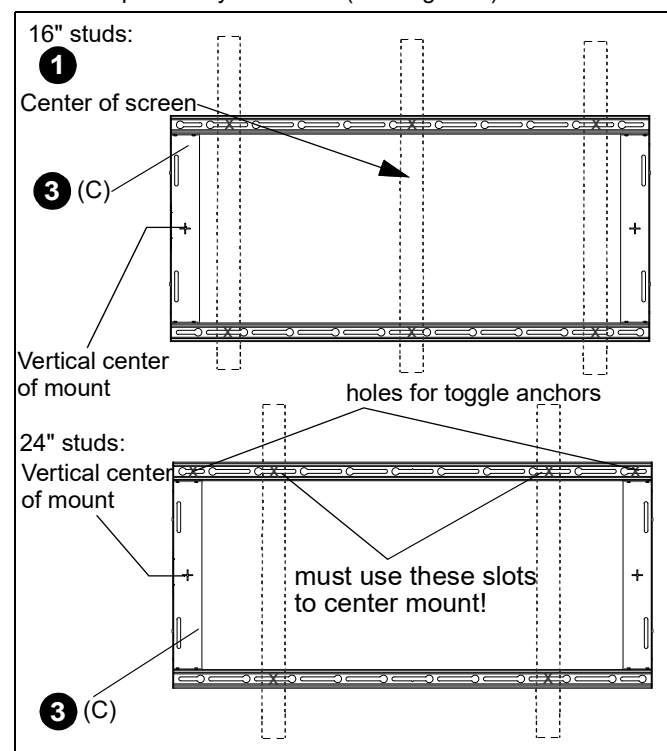

Figure 9
2. Locate the closest stud to the center of the TV screen, then locate the closest stud to the left and/or right of the selected location. If installing to 16" studs, it is preferable to mount to three studs. If installing to 24" studs, it is only possible to mount to two studs and two additional toggle anchors need to be used on the outside rail holes. (See Figure 9)
3. Line up the slots on rail assembly (C) with the two or three studs previously identified. (See Figure 9)